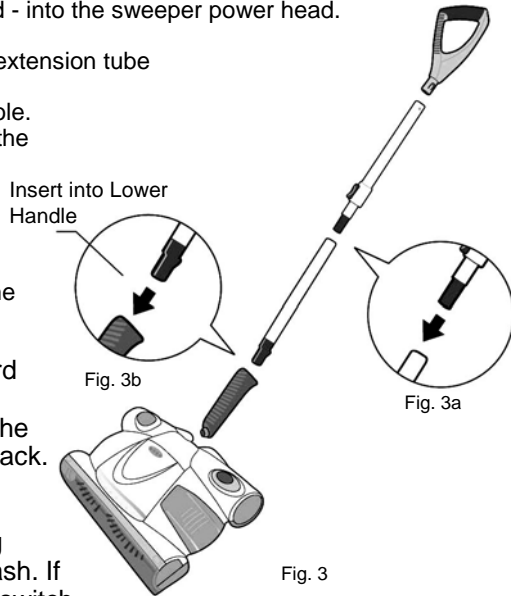

Fig. 3
- Attach the telescoping tube to the extension tube by pushing the plastic insert into the bottom part of the telescopic pole. (Fig. 3a) Push in until the "tab" on the plastic insert snaps into the open slot on the telescopic tube. Push the telescoping tube into the upper handle. (Fig. 3) Insert the extension tube into the lower handle so that the "tab" on the plastic insert snaps into the open slot on the lower handle. (Fig. 3b)